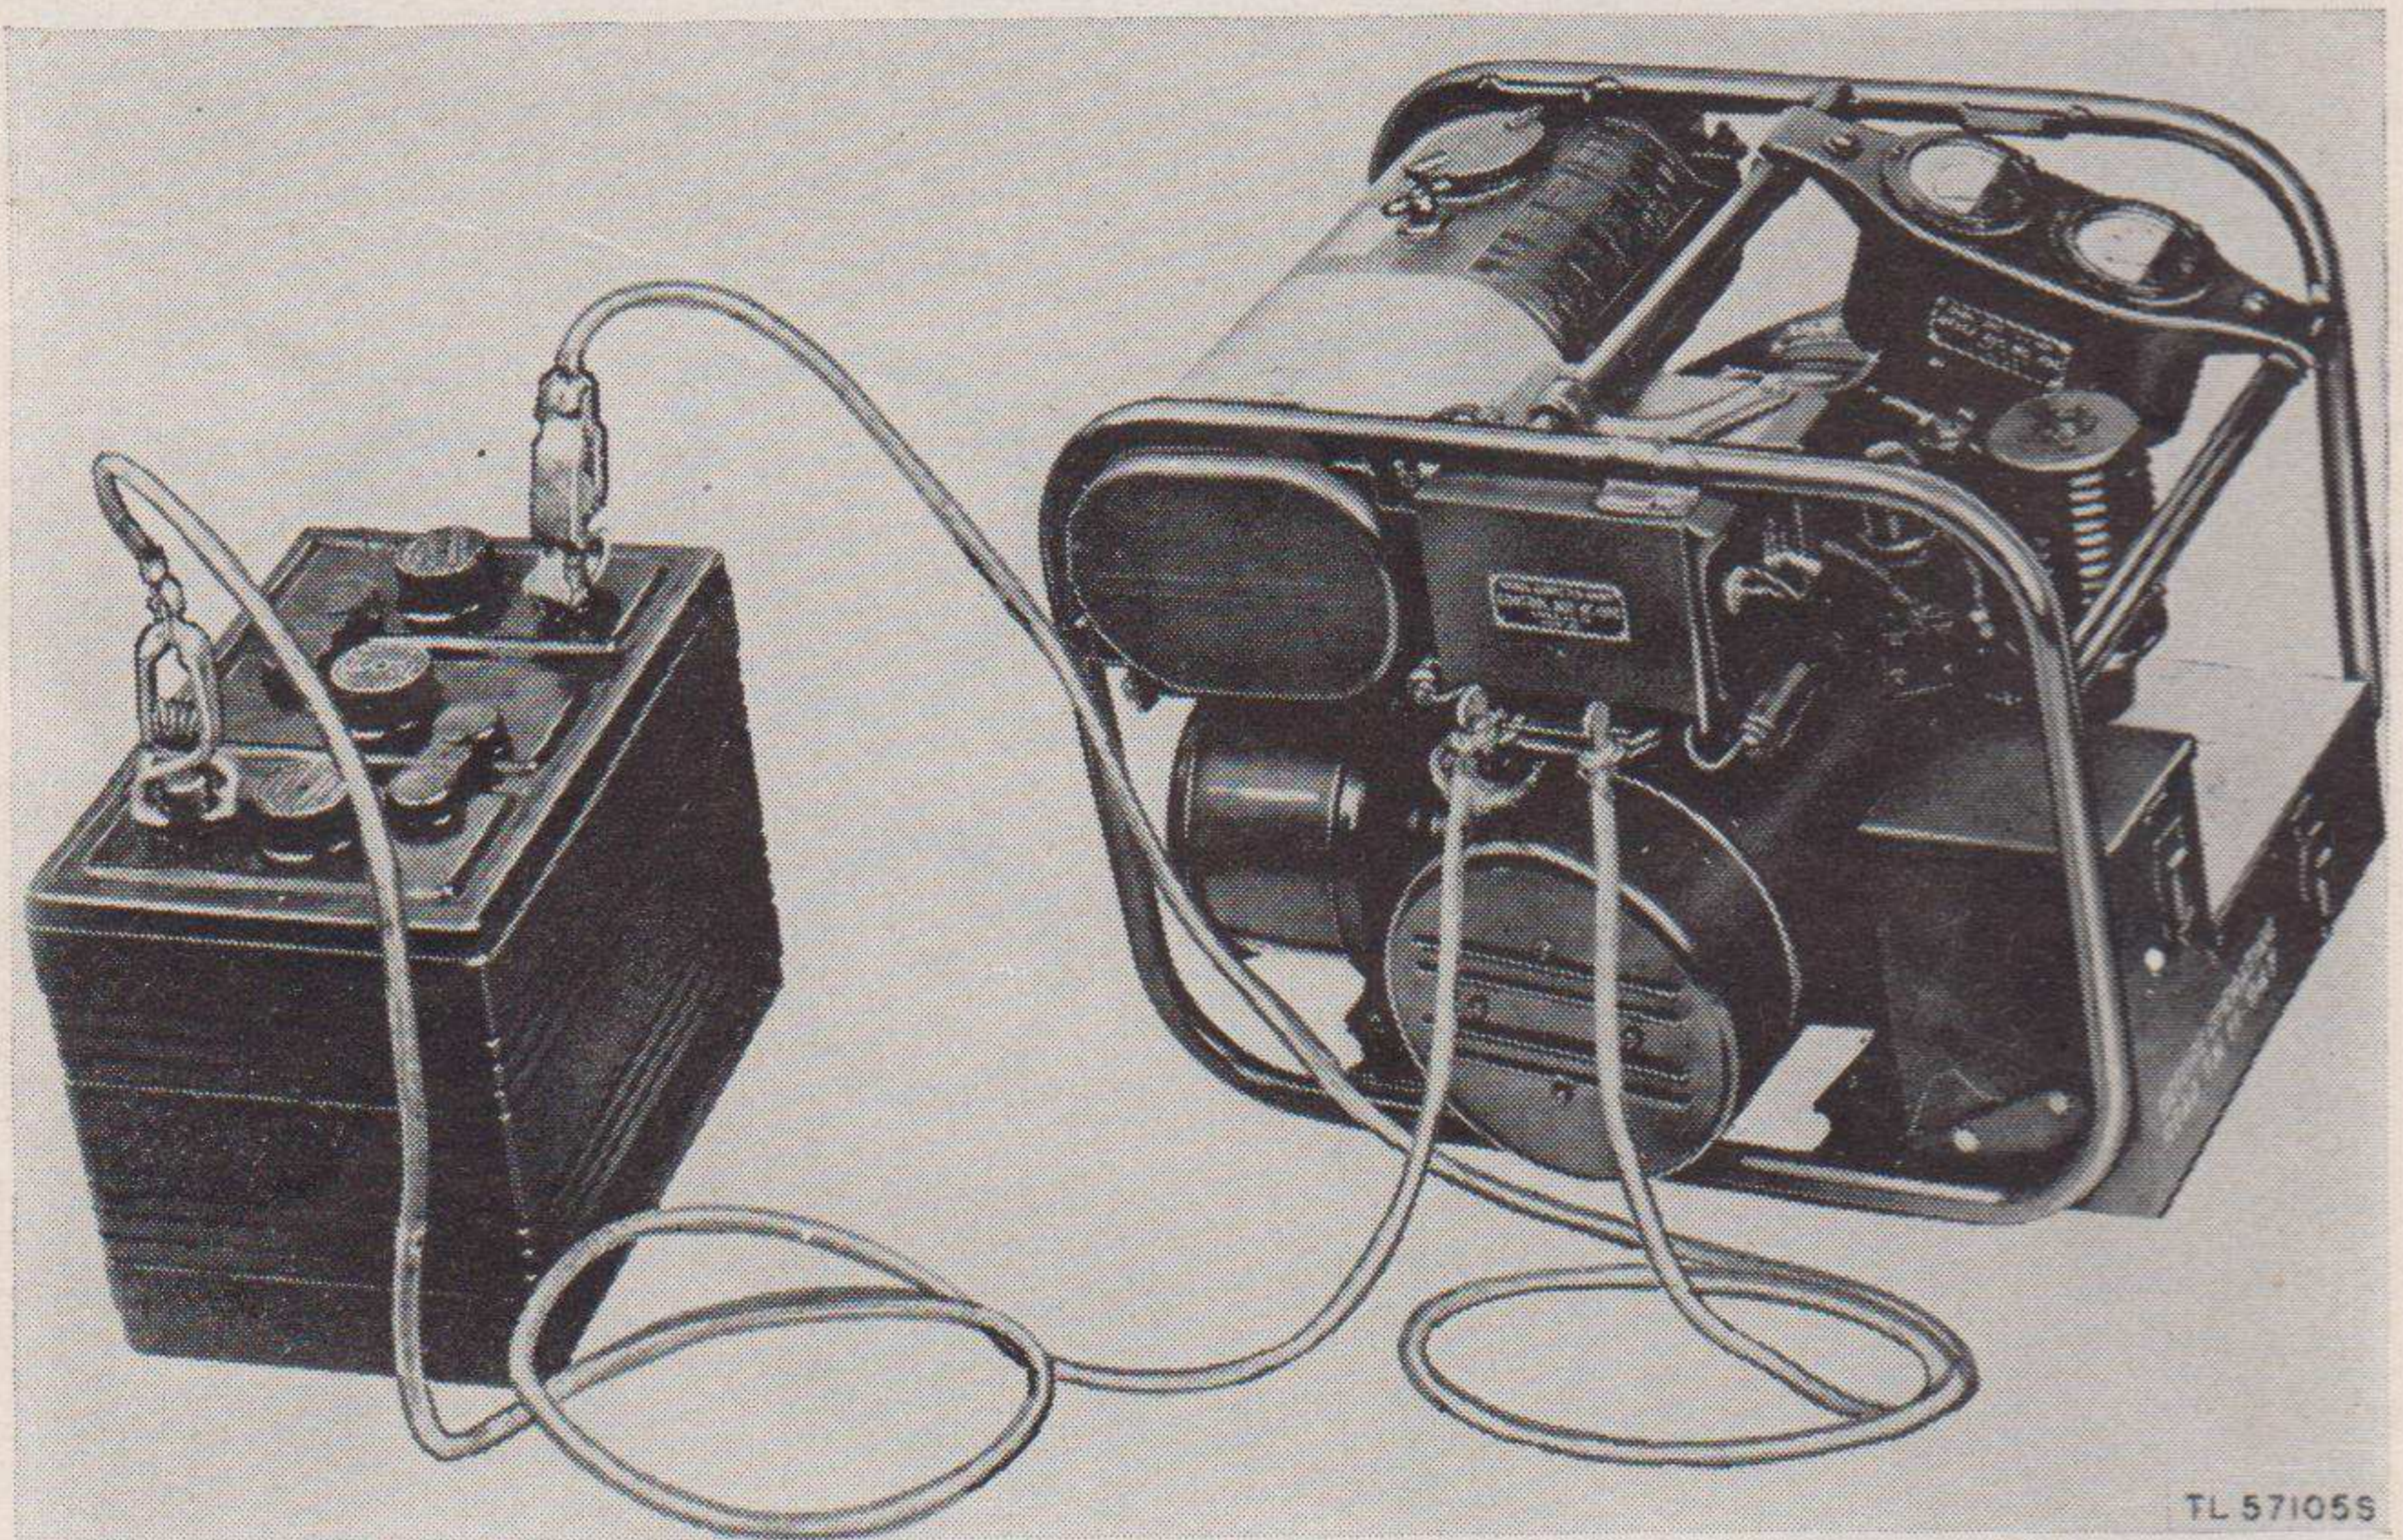

Figure 5. Power Unit PE-210 connected to 6-volt battery for charging or starting.
- (1) The rheostat, in conjunction with the electric governor, controls the engine speed and generator voltage to permit charging of 6- to 18-volt storage batteries.
- (2) The starting switch, when held in the ON position, allows the battery current to pass through the generator, causing the generator to act as a motor for cranking the engine.
- (3) The reverse-current relay or cut-out closes the charging circuit when the generator voltage rises sufficiently to send current to the battery. It also opens the charging circuit when the engine stops, thus preventing battery drain through the generator. Never set the rheostat lower than the voltage of the connected battery as this will prevent the cut-out relay from functioning.
*g.* **CORD CD-1334 (fig. 5).** Two Cords CD-1334 are furnished with Power Unit PE-210. Each cord is a single conductor of No. 8 AWG wire, insulated with synthetic rubber and terminated in a spade lug at one end and an alligator clip at the other end.
Six-, 12-, and 18-volt batteries (lead-acid type) may be charged with Power Unit PE-210. Figure 5 shows a 6-volt battery connected to the generator-output terminals for charging or starting purposes.
Figure 5 shows two Cords CD-1334 connected to the generator terminals and to a 6-volt storage battery. These are the only connections necessary for charging a storage battery or using a storage battery for starting. For full information covering electrical connections, refer to paragraph 17.